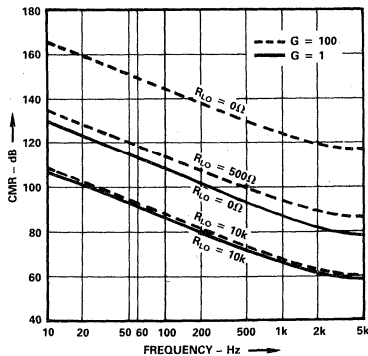

Figure 10a. AD204 Common-Mode Rejection vs. Frequency
**Common-Mode Performance.** Figures 10a and 10b show how the common-mode rejection of the AD202 and AD204 varies with frequency, gain, and source resistance. For these isolators, the significant resistance will normally be that in the path from the source of the common-mode signal to pin 2 (IN COM). The AD202 and AD204 also perform well in applications requiring rejection of fast common-mode steps, as described in the Applications section.